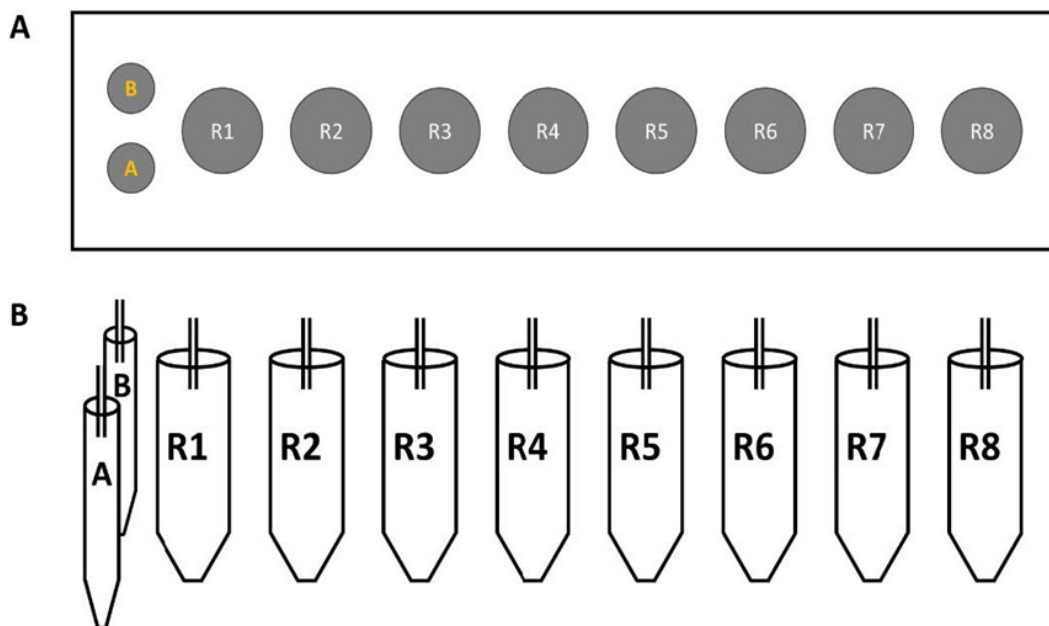

Figure 64 - Reagent loading positions
4. Attach the sippers to each position in the loading bay (Figure 64) by pushing them firmly onto the nozzle. Put on new gloves immediately before handling the sippers.